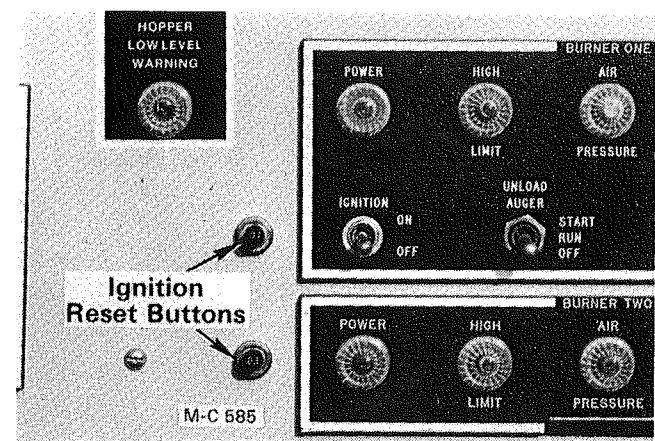

Figure 52
1. Push in ignition reset button (0.1 (1/10th) amp., circuit breaker) on the control panel, see Figure 52. The circuit breaker protects the ignition board from heat build up due to repeated ignition attempts.